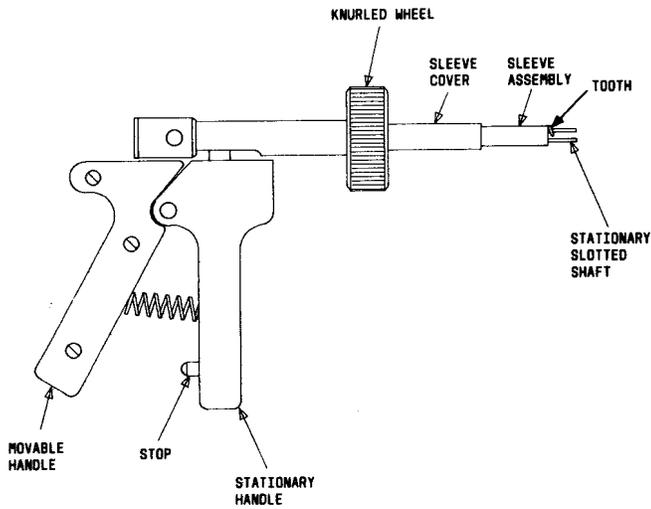

Fig. 6—958A Fuse Block Repair Tool
**3.09 Spring Extension Repair:** To stretch the spring of the 18-, 19-, or 21-type fuse blocks, or similar internal springs of modular fuse blocks (22-through 27-, 29-, 30B-, and 30D-type fuse blocks), using the 958A fuse block repair tool (Fig. 6), proceed as follows: